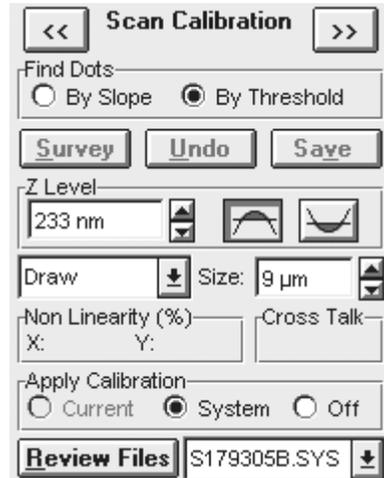

Figure 3-11. The Verify Calibration sub-panel.
1. After the scan is complete, select Acquire⇒SYS File Edit (this menu option is only enabled when the image window is active). The Scan Calibration sub-panel will be displayed, as shown in Figure 3-11.